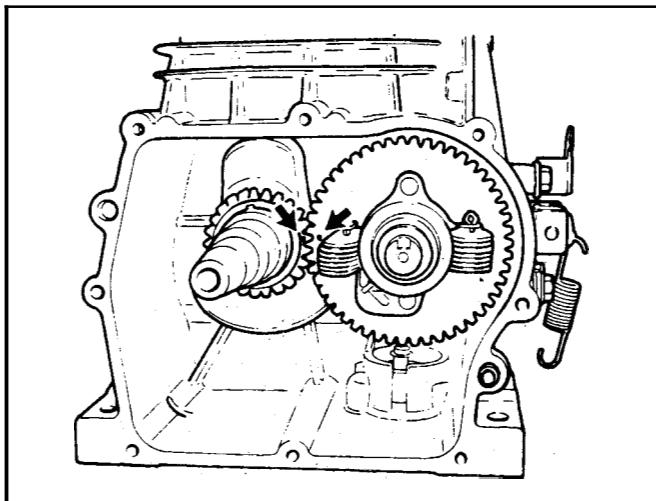

Figure 104
13. Install the camshaft in the crankcase. Take care to properly line up the matchmarks for correct valve timing. See Figure 104.